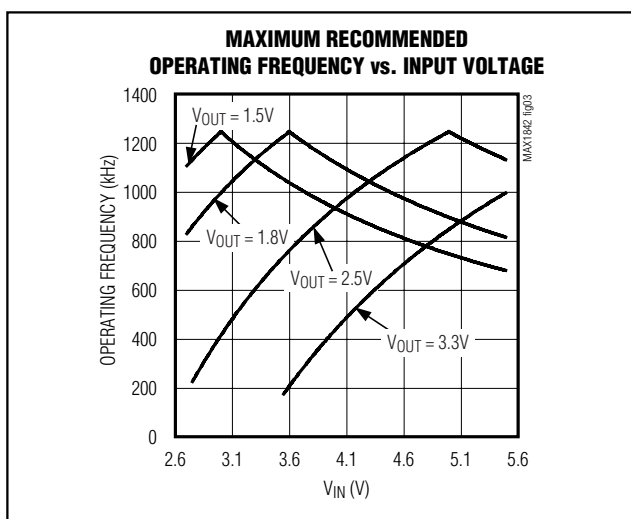

Figure 3. Maximum Recommended Operating Frequency vs. Input Voltage
- 1) Select the desired PWM-mode switching frequency; 1MHz is a good starting point. See Figure 3 for maximum operating frequency.